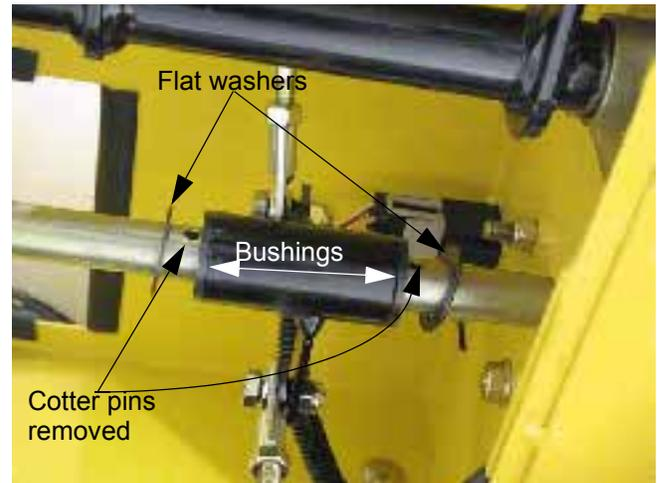

Figure 11.5
- 11.5. Remove the cotter pins that hold each of the bellcranks in position on the shaft. See Figure 11.5.